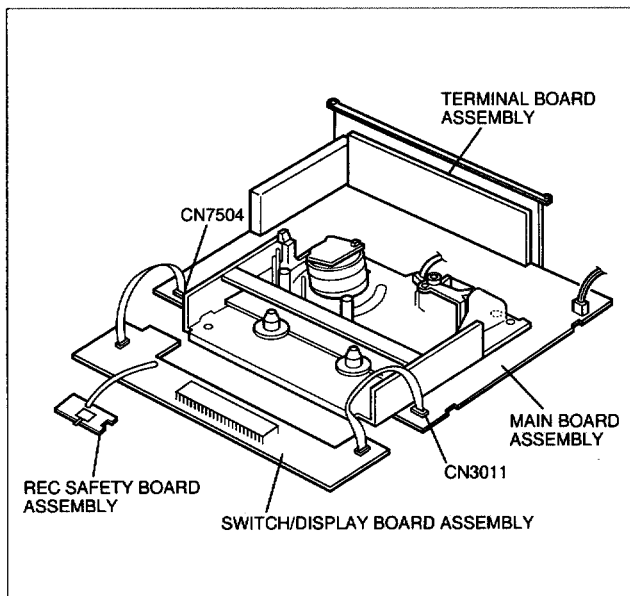

Fig. 1-4-3
- (8) Place the Switch/Display board assembly and REC safety board assembly on the front side of the Mechanism and Main board assemblies which was removed at the step (6), then connect the flat wires into CN3011 and CN7504 of the Main board assembly. (Refer to Fig. 1-4-3.)
#### 1.4.3 Cassette loading and ejection methods in the "SERVICE POSITION" (See Fig. 1-4-3).
- (1) Insert a cassette halfway in the Cassette holder assembly.
- (2) Set the switch on the REC safety board assembly to ON (by pressing the switch).
- (3) As soon as the cassette starts to be loaded, set the switch on the REC safety board assembly to OFF (by releasing the switch).
- (4) Now the desired operation (recording, playback, fast forward, rewind, etc.) is possible in this status (the status shown in Fig.1-4-3).
- When performing diagnostics of the tape playback or the recording condition in the "SERVICE POSITION", enter the desired mode before turning the set upside down, and do not change the mode when performing diagnostics while the set is placed upside down. If you want to switch the mode, turn the set to the normal position (the status shown in Fig.1-4-3).
- (5) The switch on the REC safety board assembly does not have to be operated when ejecting a tape. But be sure to turn the set to the normal position before ejecting the tape.